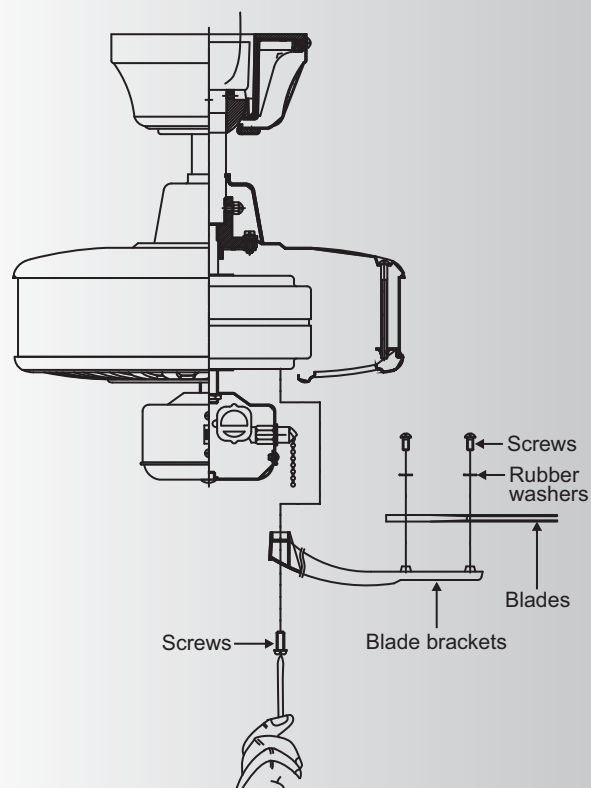

Fig. 15
Step 1. Attach a blade to a blade bracket using the screws and rubber washers provided. (Fig. 15)
Step 2. Attach each blade assembly to the motor using the "Pre-Installed" mounting screws in the blade bracket. (Fig 15)